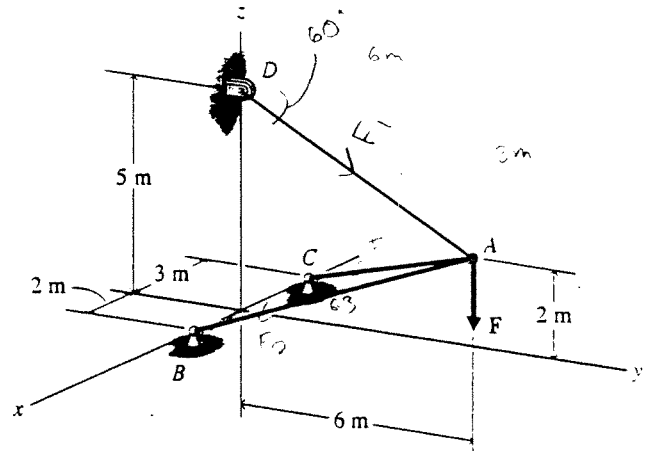

Fig. 1
- 35 (1) Struts  $AB$  and  $AC$  in Fig. 1 can transmit only axial tensile or compression forces. Determine the forces in struts  $AB$  and  $AC$  and the tension in cable  $AD$  when force  $F = 1250$  kN.